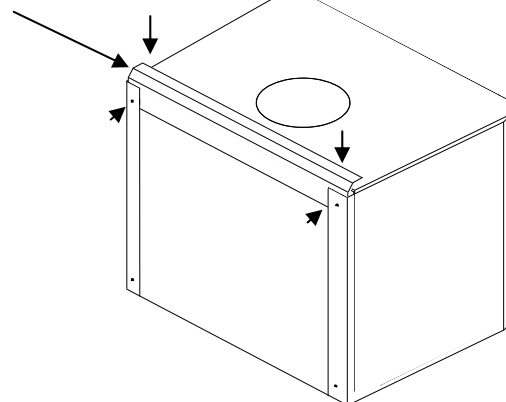

Figure 11C
3. Loosen two top screws holding side shield at rear top. Insert pipe shield where back shield and top rear side shield meets. Tighten screws. see figure 11C.